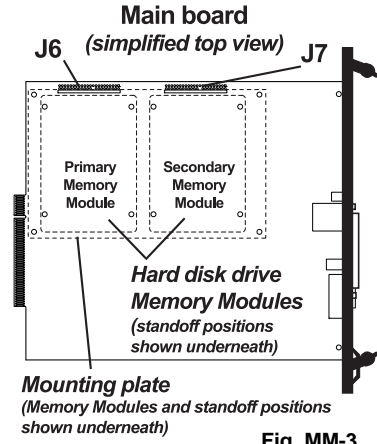

Fig. MM-3
3. Screw two of the standoffs through the drive mounting plate into the top-right and bottom-right threaded holes with the spacers. Screw two of the screws that came with the hard drive into the remaining holes (**Fig. MM-3**).